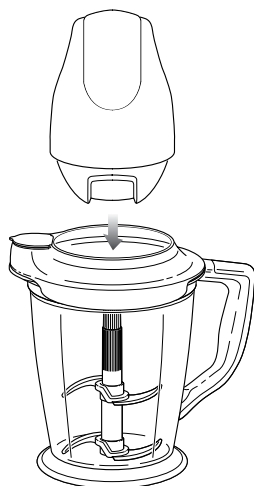

Fig. 4
- 8 Place the Master Pod on top of the pitcher splashguard making sure that it is securely in place. **(fig. 4)** **DO NOT** attempt to operate the appliance without the safety splashguard in place.